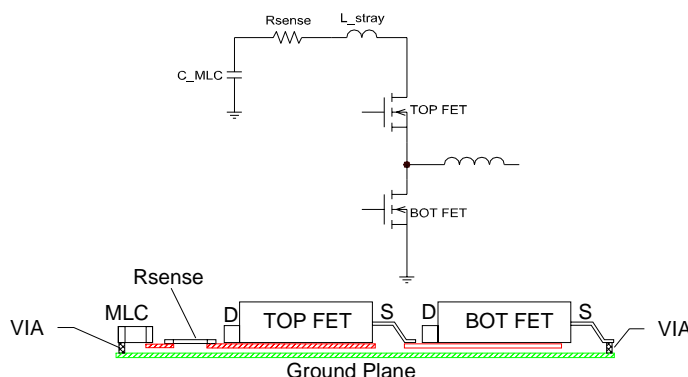

Fig. 7 - Use MLC capacitors and strip line structure to minimize the stray inductance for the switching current loop.
- Try to minimize the stray inductance from the current sensing resistor to the drains of the top FETs by using wide trace (>0.5" wide and no more than 3" long). This trace can run on inner1 layer, for example, if the inner2 layer is the ground plane, assuming the FETs are on the top layer. This arrangement forms so called strip line structure for the pulsating power current, which yields least amount of stray inductance. The concept is depicted in Fig. 7;